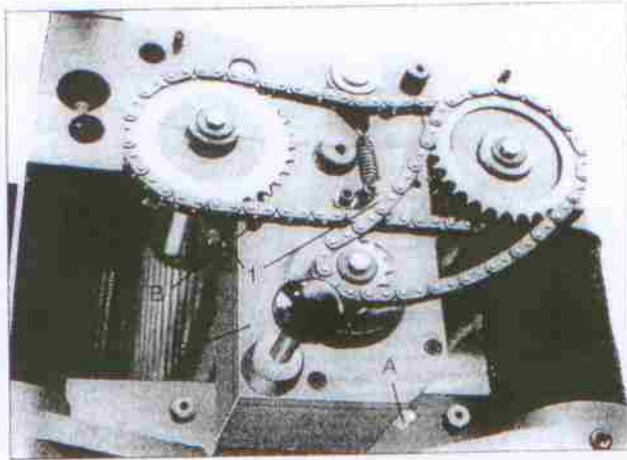

Fig 4
1. Remove the drain plug(A) Fig 4 and filler Cap(B), Drain dirty oil thoroughly.